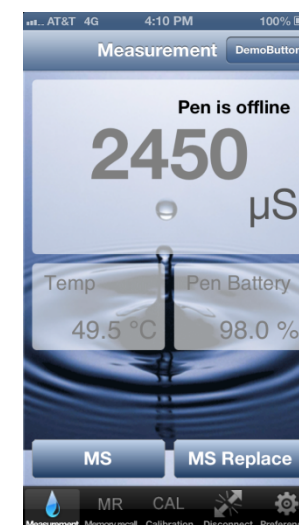

Figure 19
- Once you connect to the Demo ULTRAPEN, a button labeled Demo Button will appear at the upper right corner of any screen where you would normally use the ULTRAPEN instrument (see Figure 19).